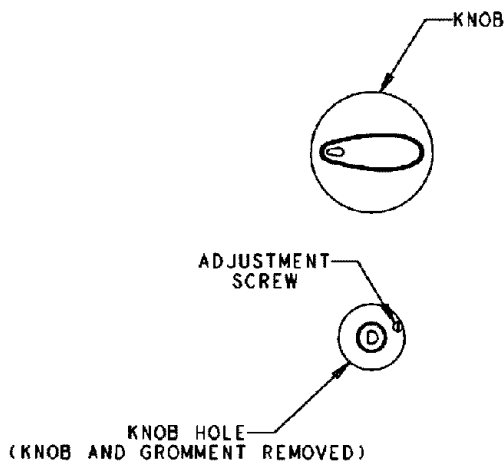

FIGURE 12 ART# 9215-209-0
## C. LOW FLAME ADJUSTMENT (See figure 12)
3. Locate the valve adjustment screw. See figure 12.
4. Locate the valve adjustment screw. See figure 12.